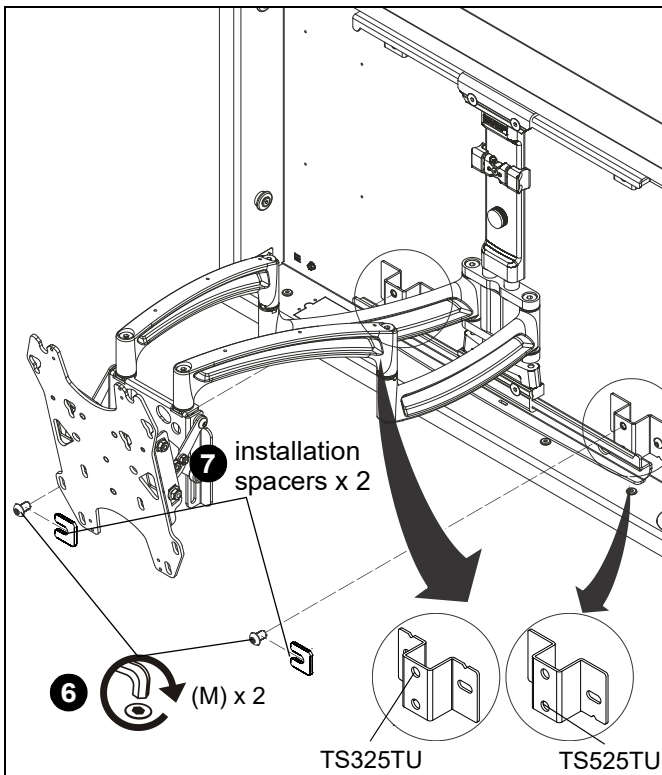
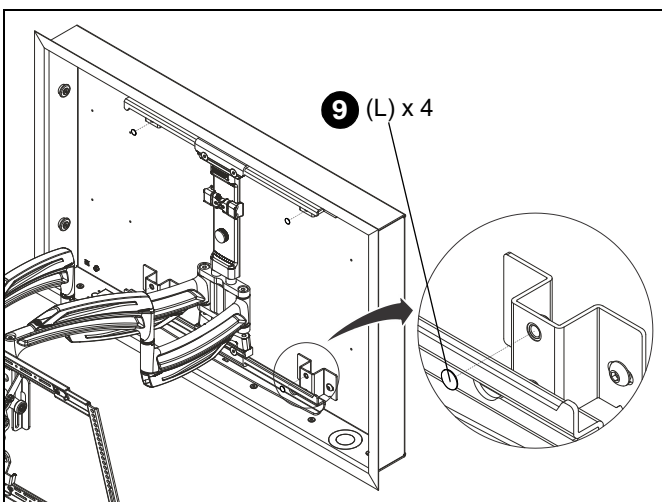

Figure 11
Figure 12
6. Use two 5/16-18 x 1/2" button head cap screws (M) to loosely attach lower wall plate of TS325TU/TS525TU assembly to lower attachment brackets (N). (See Figure 11)
IMPORTANT ! : Install to lower bracket holes for TS525TU and upper bracket holes for TS325TU. See insets on Figure 11.
7. Place two installation spacers (included with TS325TU/TS525TU) over two 5/16-18 x 1/2" button head cap screws (M). (See Figure 11)
8. Tighten two screws (M) to secure lower wall plate to lower attachment brackets.
9. Install four 9/16" covers (L) into unused holes on attachment brackets. (See Figure 12)